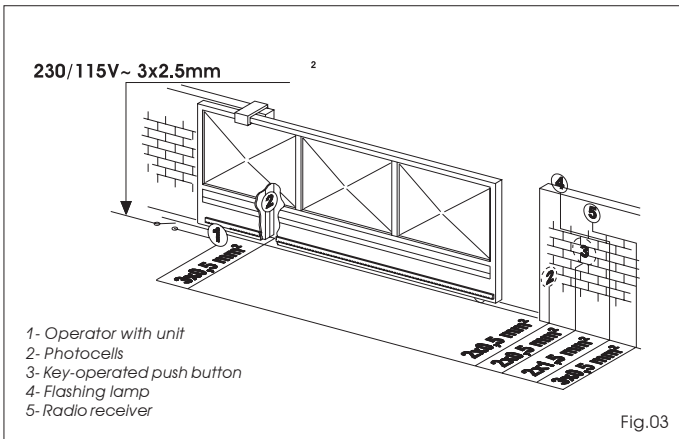

Fig.03
- Lay the electric cables for connection to the accessories and power supply as shown in diagram of Fig. 03. To facilitate connections to the control unit,